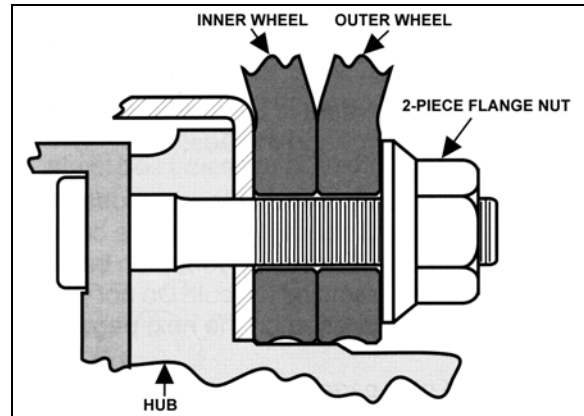

FIGURE 5: DRIVE AXLE WHEELS 13007
1. Loosen a hex stud nut three turns (Fig. 5);